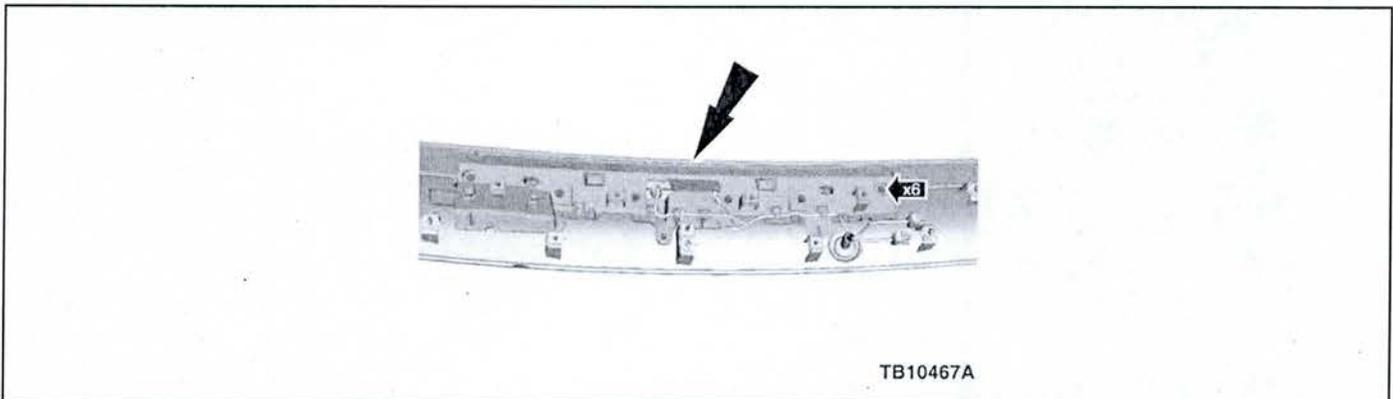

Figure 1 - Article 13-12-19
7. Apply 152 mm (6") of 3M™ Automotive Acrylic Plus Premium Attachment Tape or equivalent to the moulding and leave adhesive backer installed. (Figure 1)